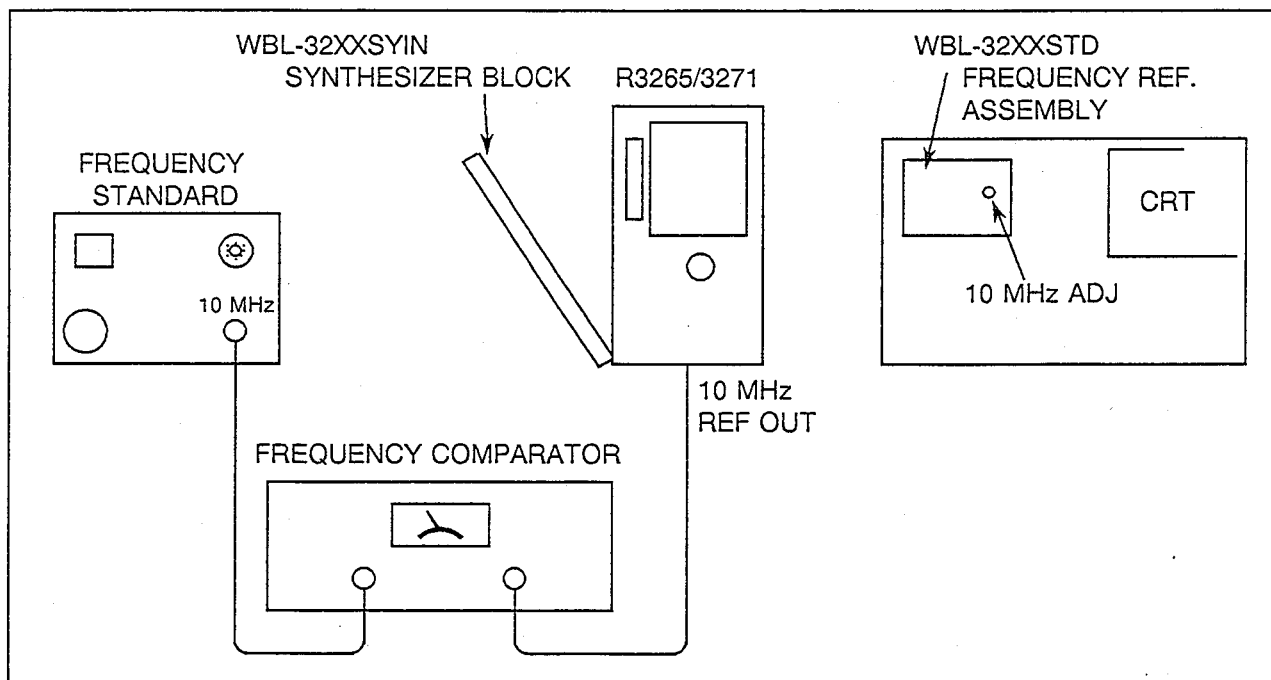

Figure 5-15 10 MHz Reference Cristal Oscillator Adjustment
- (7) Connect the equipment as shown in Figure 5-15.
- (8) Adjust the 10MHz ADJ control of the WBL-32xxSTD unit so that the indicator of frequency comparator reaches within $\pm 1 \times 10^{-8}$.